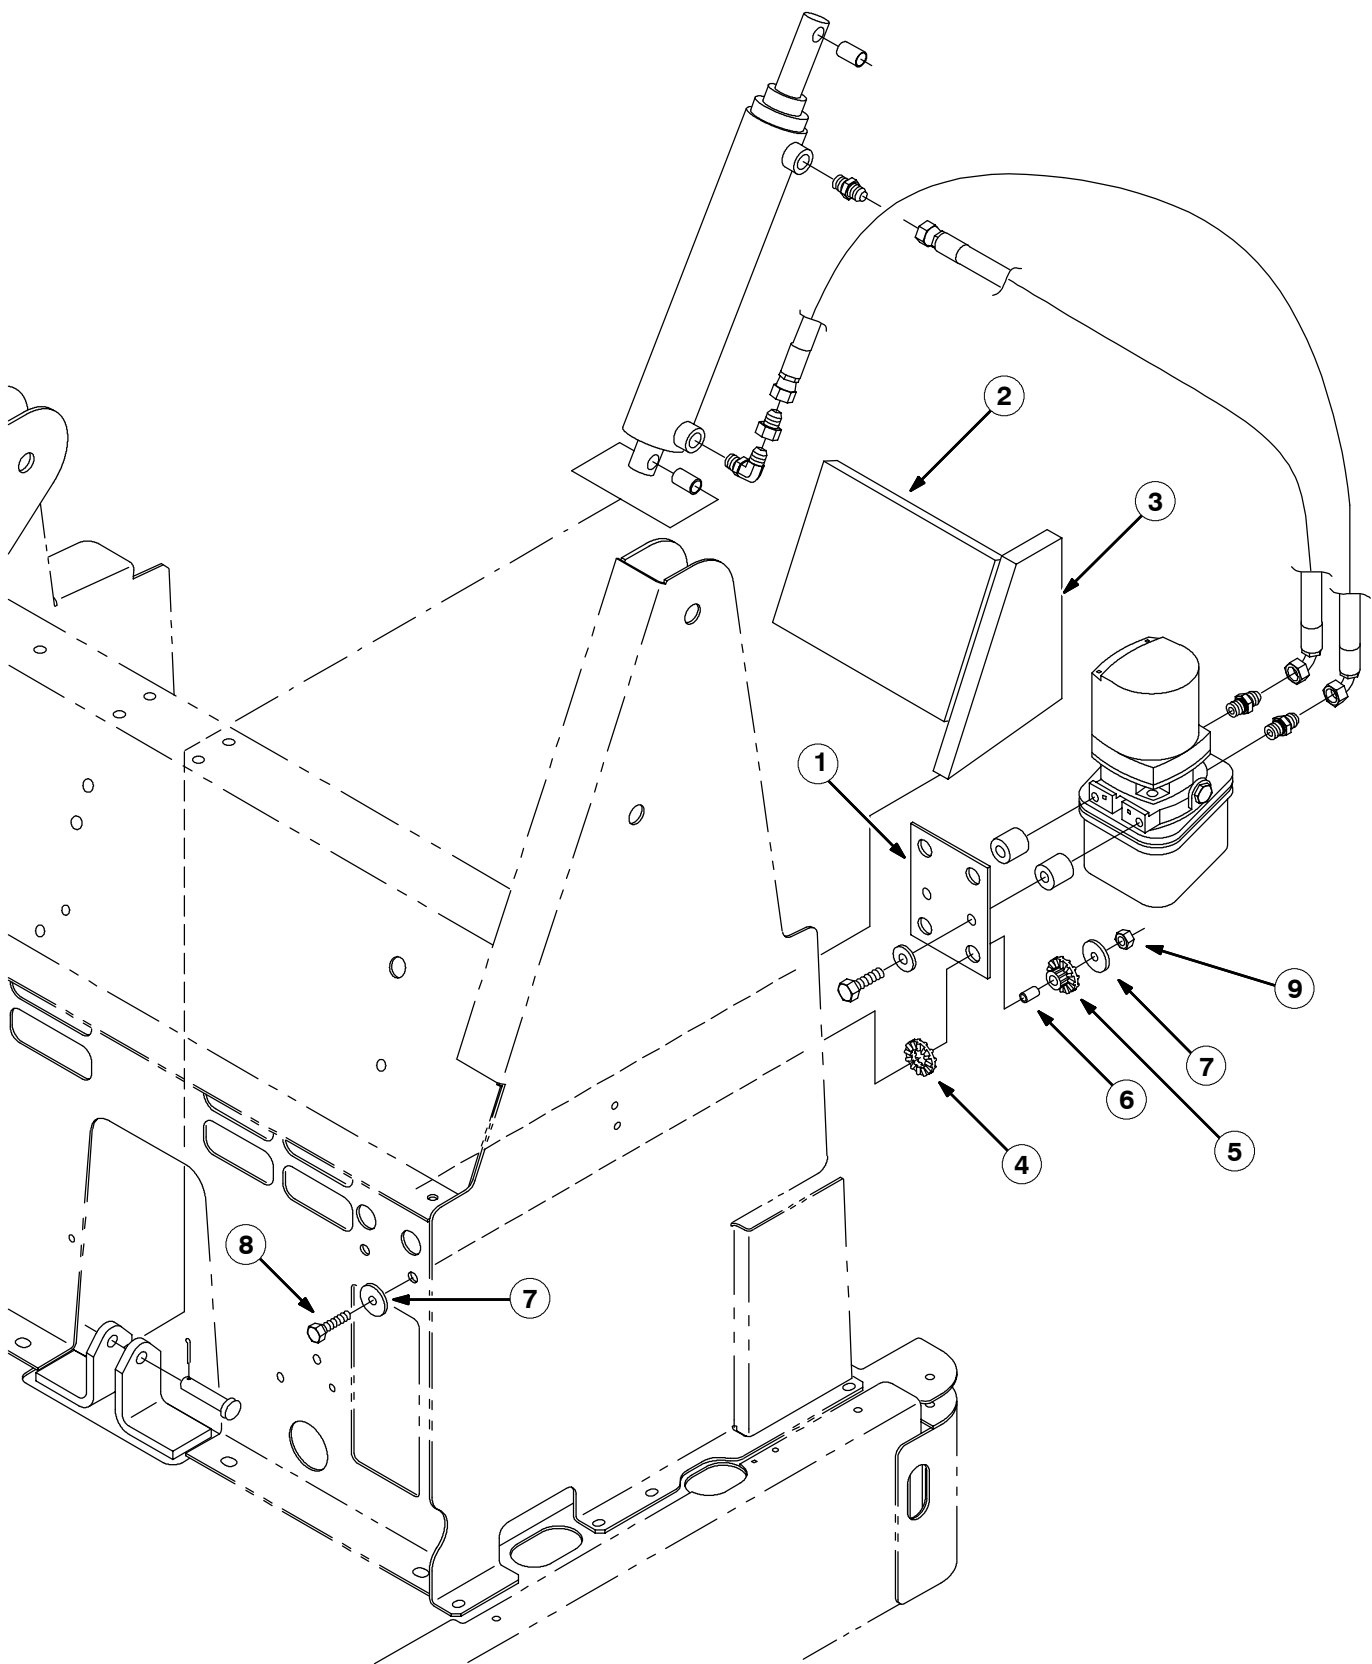

FIG. 2 - Installation, Isolator, Hopper Lift Pump
7. Clean the surface on the left hand lift tower and the adjacent surface of the back side of the seat support panel. All oils and dirt must be removed to ensure good adhesion of the acoustic insulation. (Refer to FIG. 2)
8. Remove the protective film from side piece of acoustic insulation (3), and install it on the left hand lift tower in the hopper area. (Refer to FIG. 2)
9. Install the front piece of acoustic insulation (2) on the rear surface of the operator's compartment. The short side of this piece should but up against the long side of the side piece (3). (Refer to FIG. 2)
10. Install the new pump mount plate (1) using four isolator bushings (5), isolator rings (4), tubes (6), M6 hex bolts (8), M6 lock nuts (9) and eight flat fender washers (7).